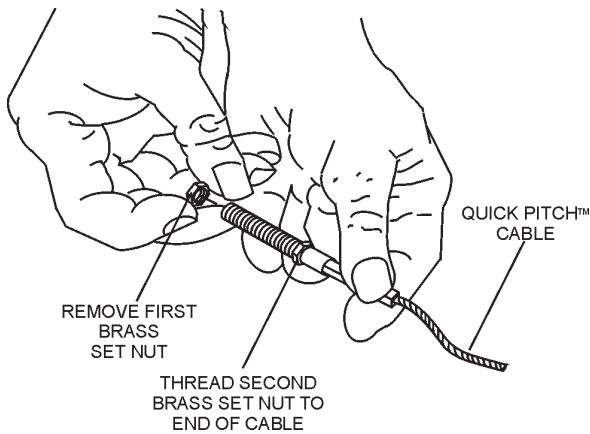

Figure 7. Quick Pitch™ Cable
3. Remove one brass set nut from the Quick Pitch™ cable end as shown in Figure 7.